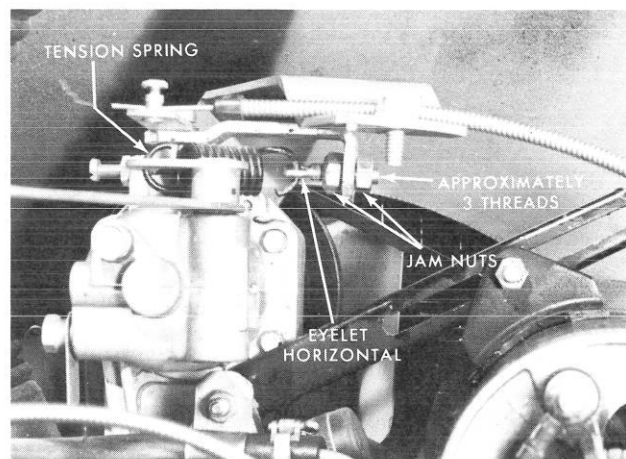

Figure 39
10. If the drop in speed between no-load and full load is too great, loosen the lock nuts and add tension to the spring (Figure 39) by lengthening the spring  $1/32$ ". Bring engine back to original speed with throttle lever. Repeat this procedure as required.